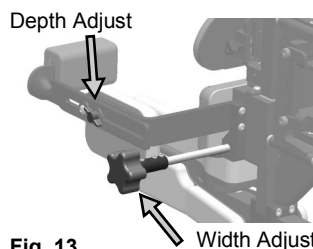

Fig. 13
- Set hip pad width to allow the clients hips to be easily placed between the hip pads by turning the knob located on the outside of the hip pad assembly (client's left side, fig. 13). Turning the knob clockwise makes the assembly wider while counterclockwise narrows the hip pad width.
- Place the client in the unit making sure to slide the client's hips as far back as possible into the *KidWalk/KidWalk II*. Once the client is all the way back on the seat, flip the front pads down, then slide the front hip pads toward the client until they are snug and holding their hips in place. Tighten the depth adjustment knobs securely (fig. 13).